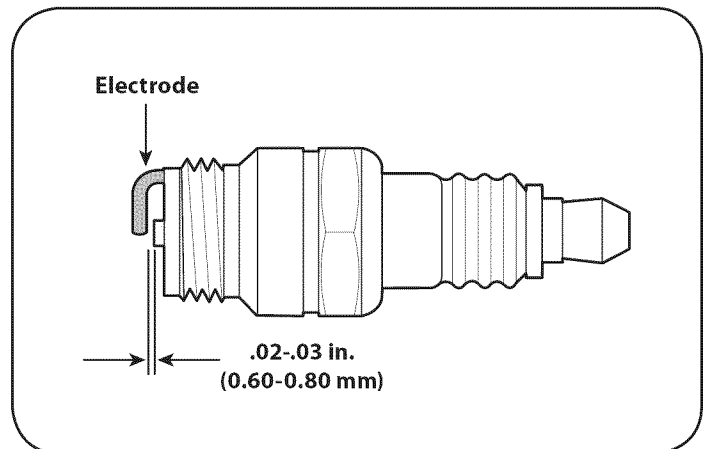

Figure 21
- Measure the plug gap with a feeler gauge. Correct as necessary by bending side electrode. See Figure 21. The gap should be set to .02-.03 inches (0.60-0.80 mm).